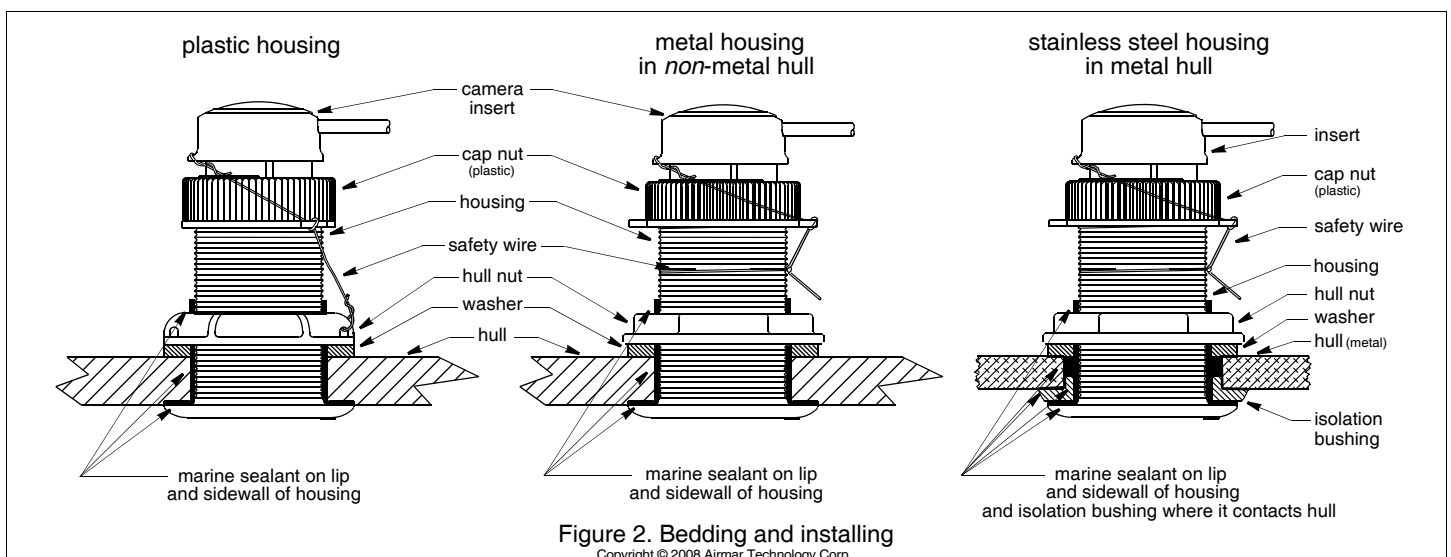

Figure 2. Bedding and installing
Apply a 2mm (1/16") thick layer of marine sealant around the lip of the housing that contacts the hull and up the sidewall of the housing (see Figure 2). *The sealant must extend 6mm (1/4") higher than the combined thickness of the hull, the washer(s), and the hull nut.* This will ensure there is sealant in the threads to seal the hull and to hold the hull nut securely in place.
1. From outside the hull, push the housing into the mounting hole using a twisting motion to squeeze out excess sealant (see Figure 2).
2. Remove the insert from the housing by removing the safety wire and unscrewing the cap nut (see Figure 2). This will jack out the insert.